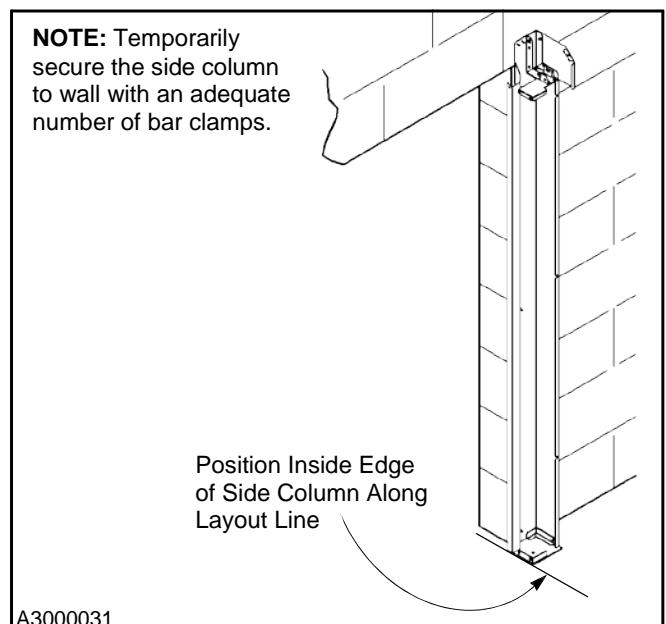

Figure 14
8. Align the inside edge of the side column with the production width line laid out earlier on the floor. Then temporarily secure the side column to the wall using bar clamps. (See Figure 14.)